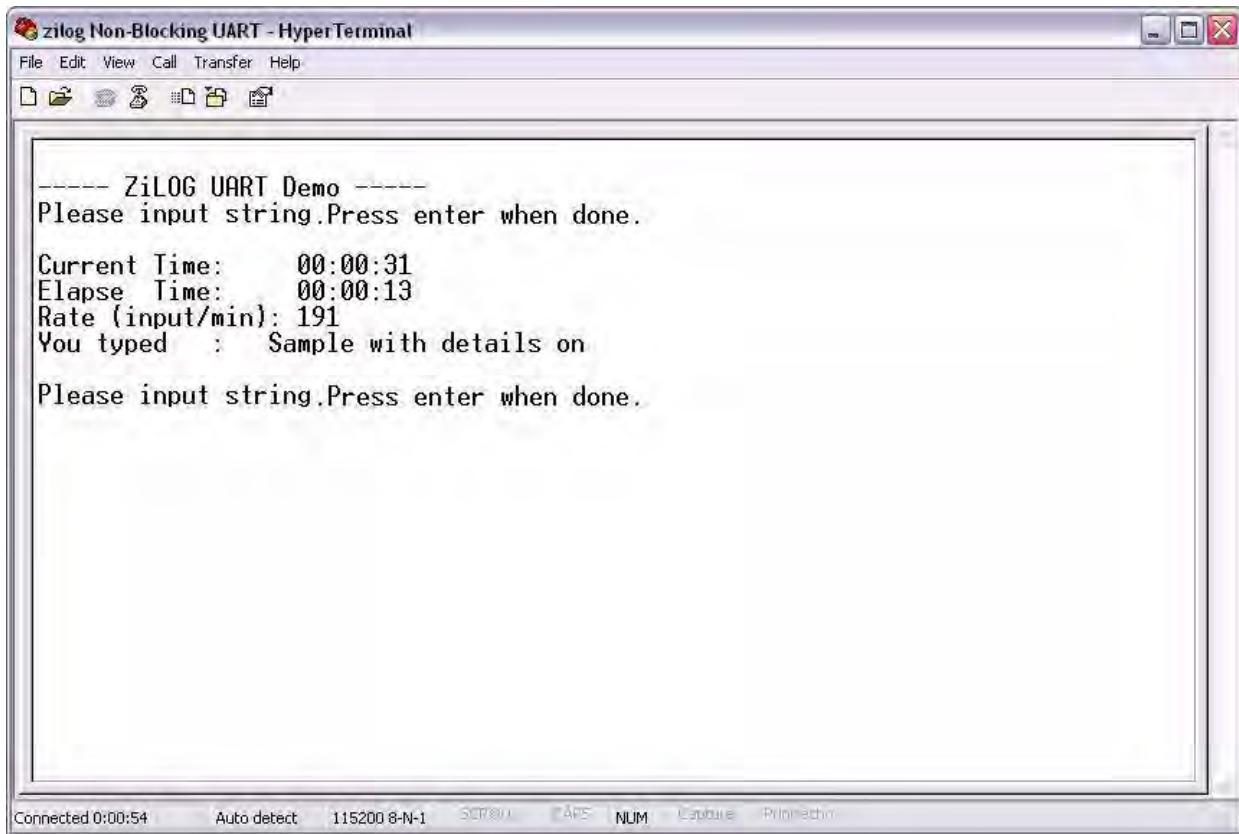

Figure 13. Timing Details Enabled Using the DETAILON Command
13. Next, enter a new character string, then press the Enter key. Timing details are now included in the in HyperTerminal window, as shown in Figure 13.